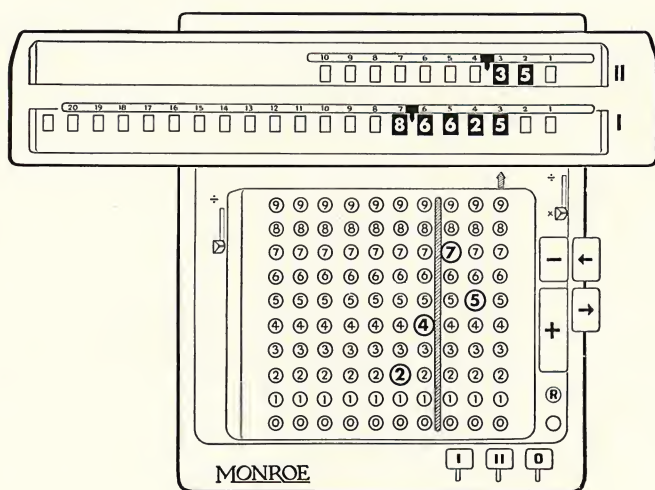

Figure 10
Step 3—After multiplying by .35 the result appears in the lower dials, 8.662500, correctly pointed off (Figure 10).